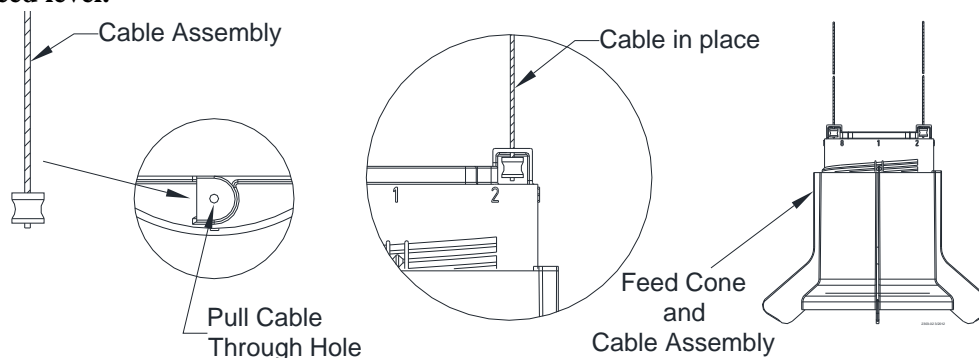

Figure 10. Cable Assembly Installation
8. Install two cables at each feed level tube as shown (if the cable assemblies have not been installed and were previously installed), see **Figure 10**.